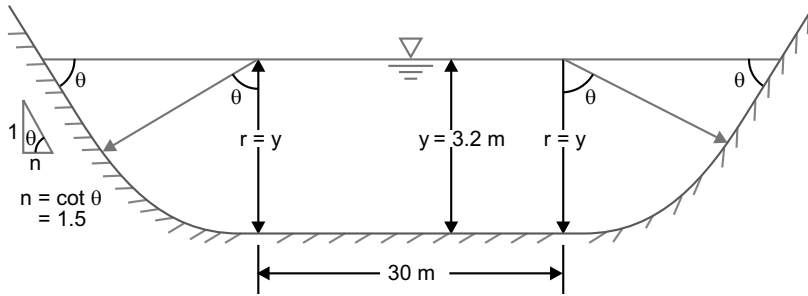

Fig. 11. Standard lined trapezoidal section.
Q. 11. In Fig. 11 is shown a standard lined trapezoidal section which has a bottom width of 30 m and side slopes of 1.5 horizontal : 1 vertical. The longitudinal slope is 1 in 4500 and the Manning's N can be assumed to be 0.017. Determine the discharge if the full supply depth y is 3.2 m. [CSE]